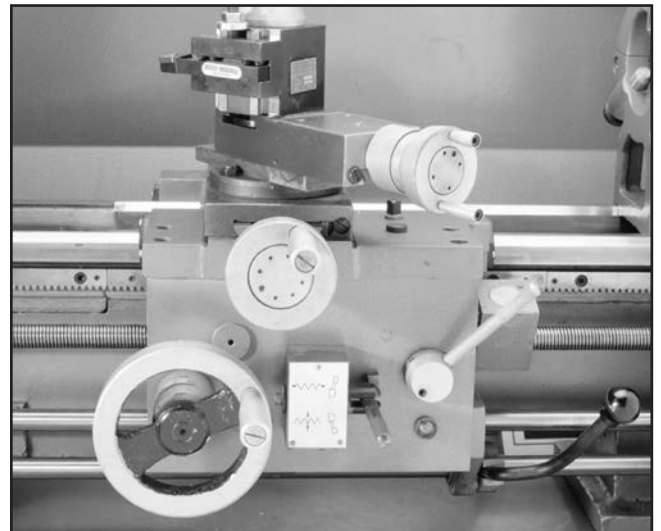

Figure 30. Carriage control lever in neutral.
1. Make sure the machine is properly grounded, the Power Switch is in the “OFF” position and the spindle control lever is in the neutral position. See **Figure 30**.